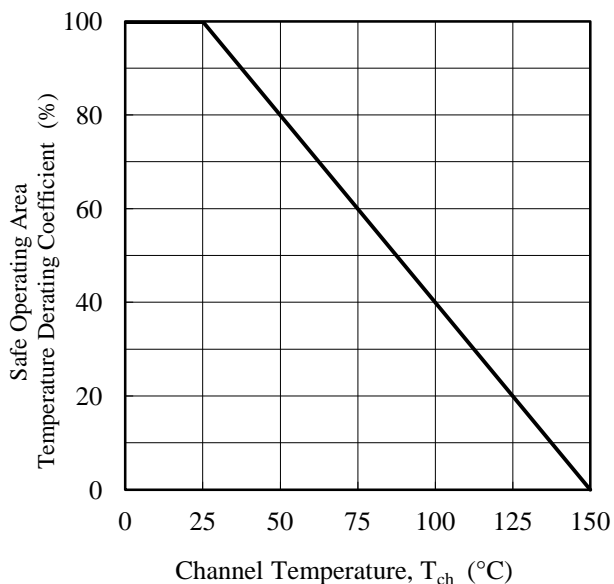

Figure 3-1 SOA Temperature Derating Coefficient Curve
- When the IC is used, the safe operating area curve should be multiplied by the temperature-derating coefficient derived from Figure 3-1.